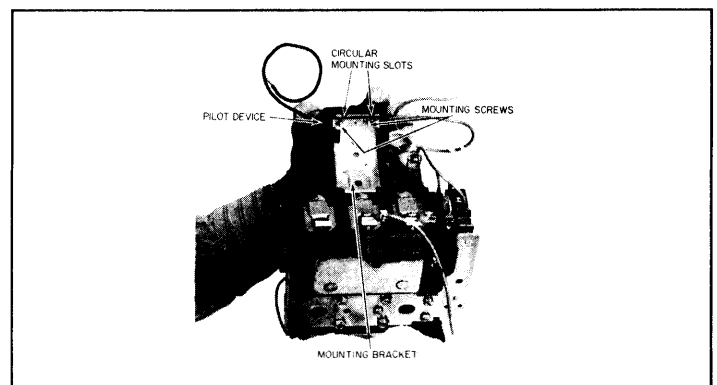

Figure 4. Installation of push button or selector switch.
9. Slide pilot device onto the mounting bracket, using circular mounting slots as shown in Figure 4.